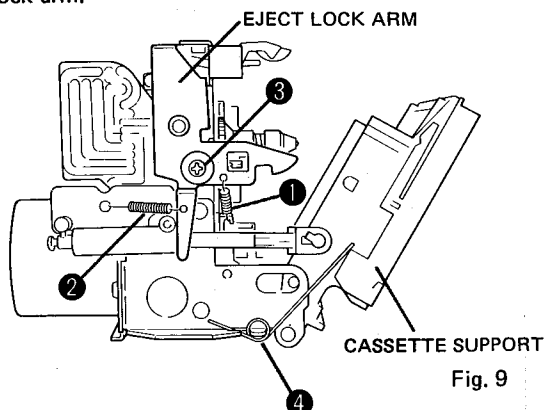
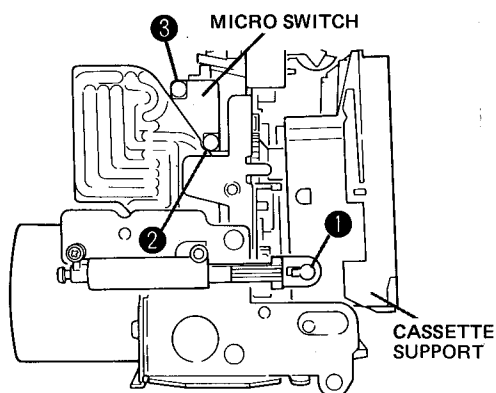

Fig. 9
Fig. 10
2. Remove the springs ① and ② in Fig. 9 and remove the screw ③ in Fig. 9 and then remove the eject lock arm.
3. Remove the screws ② and ③ in Fig. 10 and then remove the micro switch.
2. Remove the spring ④ in Fig. 9 and remove the joint of damper ① in Fig. 10 from cassette support.